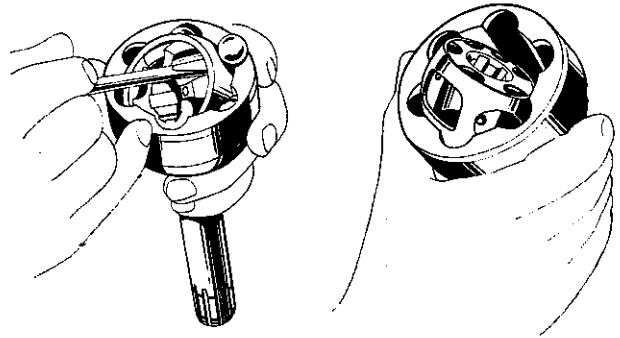
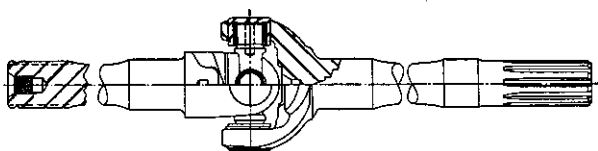

FIG. 244—DISMANTLING RZEPPA JOINT 10611
FIG. 247—SPICER UNIVERSAL JOINT
The Rzeppa type illustrated in Figs. 244 and 245 and the Spicer type illustrated in Fig. 247 are used in production. Service procedure covering these type joints is outlined below.
- d. Push down on various points of the inner race and cage until the balls can be removed with the help of a small screw driver in the manner illustrated in Fig. 244.
The Spicer Universal Joint is shown in Fig. 247, and is a cardan cross joint with needle bearings similar in design to the Spicer propeller shaft universal joint. On Spicer axle joints, the snap ring slots are in the bearing retainer, as shown in Fig. 247.